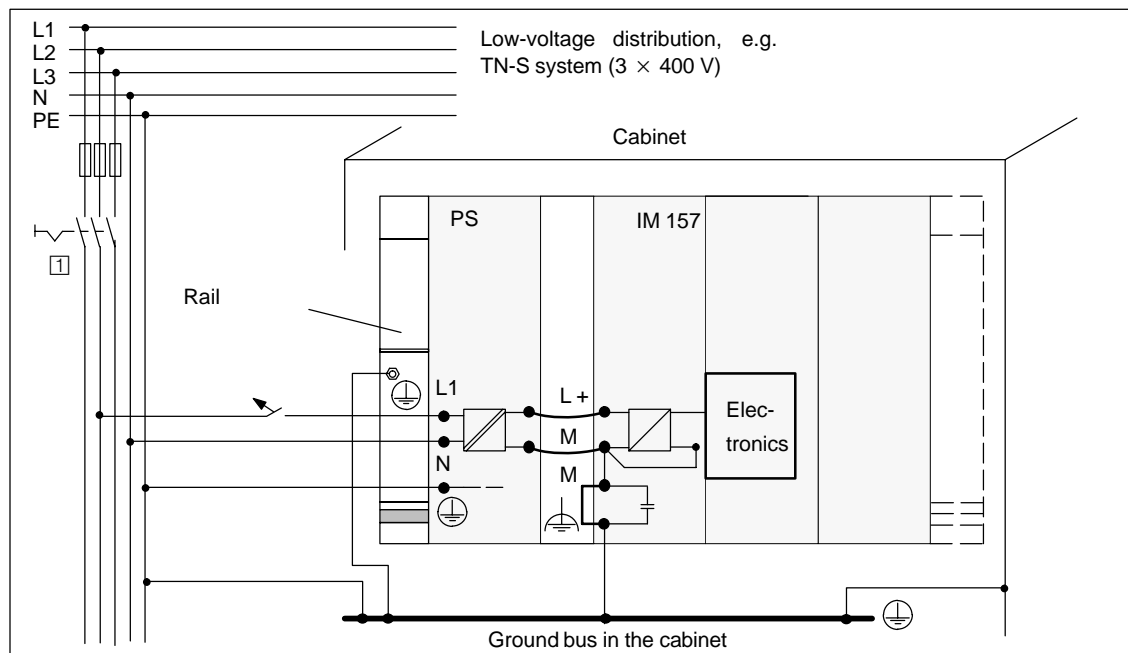

Figure 4 Operating the Y-Link on a Grounded Supply
- Main switch (in Figure 4, [1]): DIN VDE 0100 Part 460
- Isolator (in Figure 4, [2]): DIN VDE 0113 Part 1
Figure 4 shows the position of the Y-link in the overall configuration supplied from a TN-S system. When the Y-link is configured with grounded reference potential, any interference current is discharged to the protective conductor.